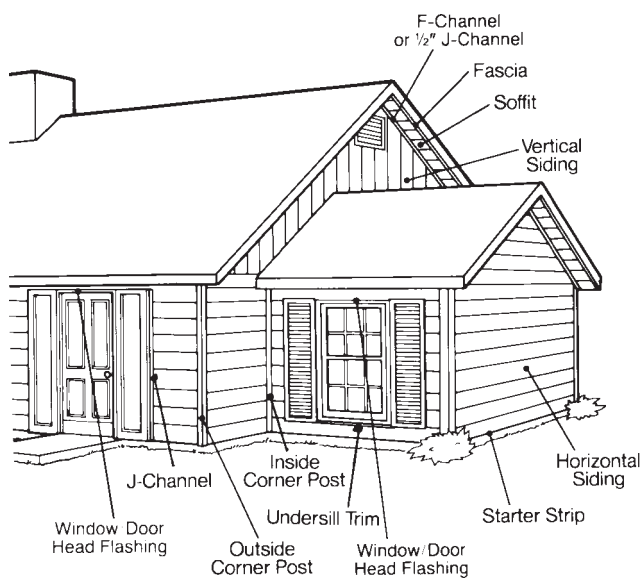

FIG. 2 Panels and Accessories
3.2.6 *fascia*—the trim along the perimeter of roofs or roof overhangs. (See Fig. 2.)